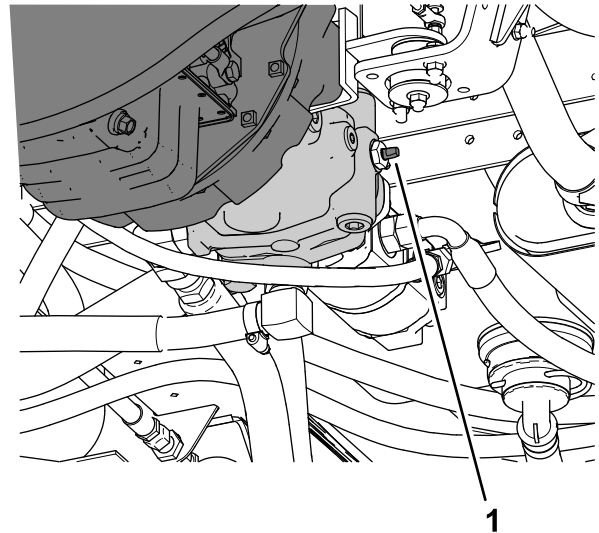

Figure 55
- Rotate the tow valve (Figure 55) 90° in either direction to open the tow valve.